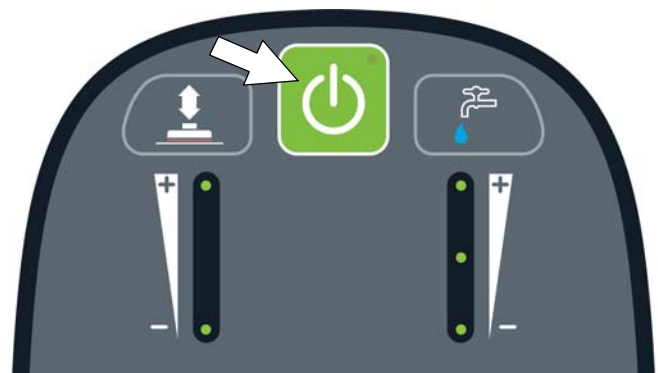

FIG. 38
- Press the 1-STEP button to activate the scrub function (Figure 38). The scrub head will lower to floor.